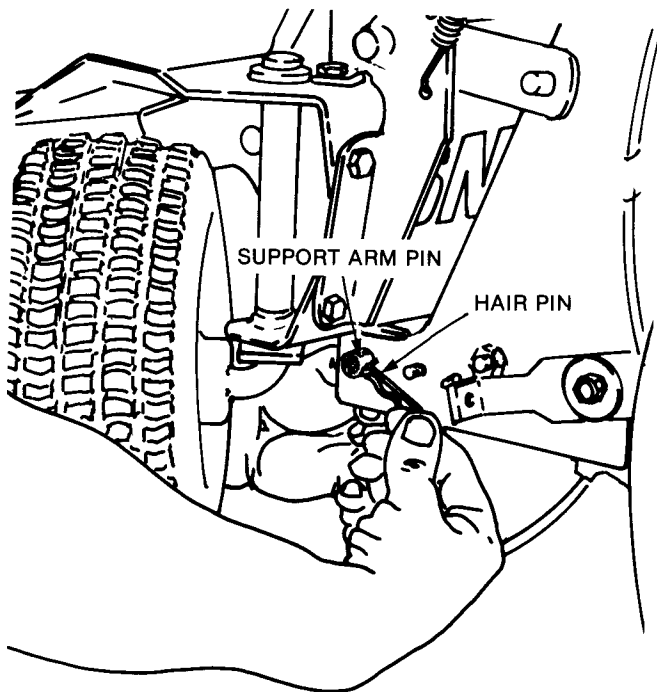

FIGURE 11 - PULL SUPPORT ARM PINS
STEP 8: Place a block of wood under the impeller section of the blower to prevent it from falling when separated then remove the cotter pins and two clevis pins from the support arms (Figure 11).